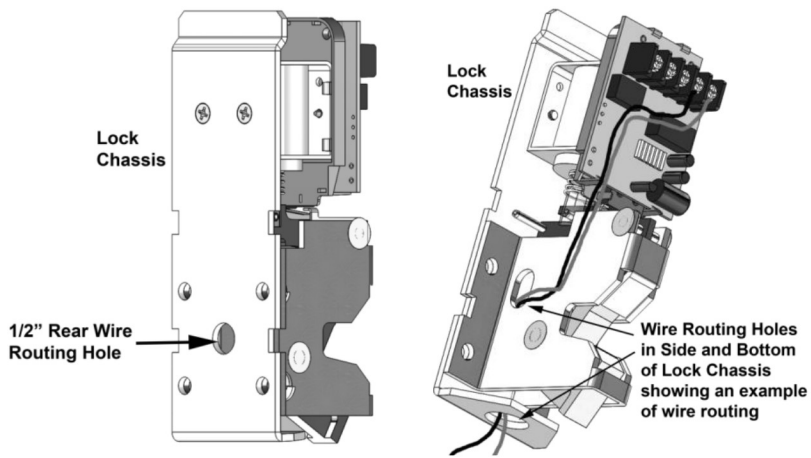

Figure 7. Wire Routing
3. **ROUTE** all electrical wiring through either the provided wire conduit coupling in the bottom of the lock chassis or through the ½" [12.7 mm] hole in the rear of the lock mounting chassis (see Figure 7, "Wire Routing").
5. **IF** there is no cylinder lock installed, **THEN** **FEED** wires through either side of the lock chassis (see Figure 7).